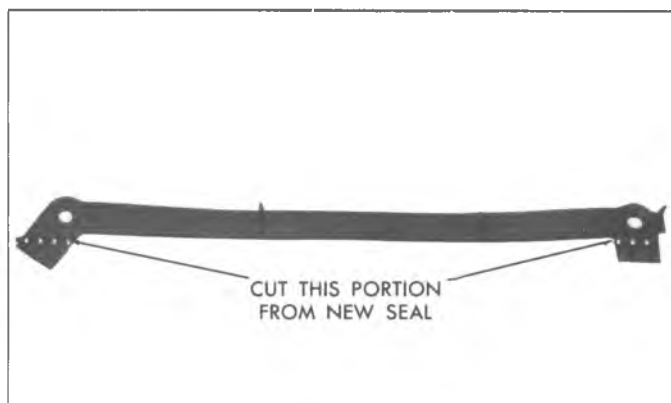

Fig. 19L—Oil Pan Front Seal Modification
2. Cut tabs from the new oil pan front seal (fig. 19L) use a sharp instrument to ensure a clean cut.